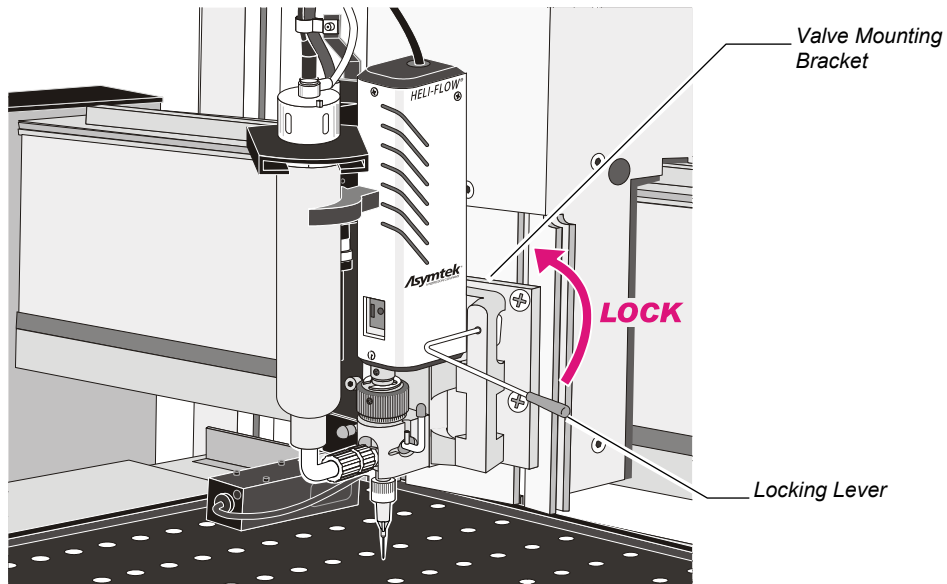

Figure 3-12 Installing the Valve (Spectrum)
4. Secure by turning the locking lever on the valve mounting bracket to the upward position (Figure 3-12).